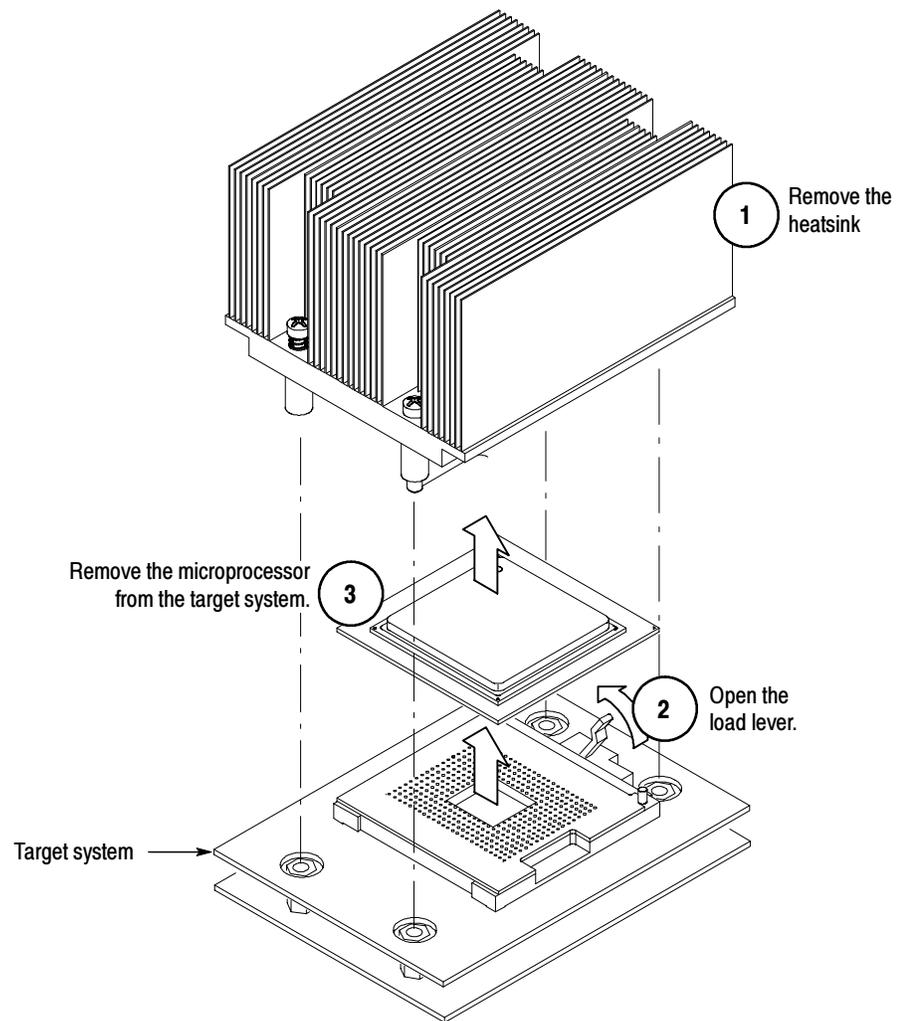

Figure 1-3: Removing microprocessor probe head from the target system
4. Follow the steps in Figures 1-3 through 1-6 to install the probe head on the target system.
2. Reverse the steps in Figures 1-3 through 1-6 to remove the probe head.